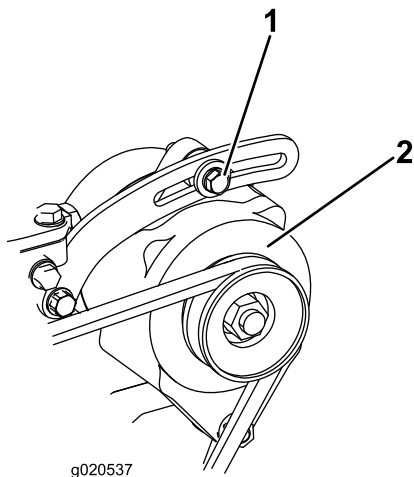

Figure 100
1. If the deflection is not 10 mm (3/8 inch), loosen the alternator mounting bolts (Figure 100).